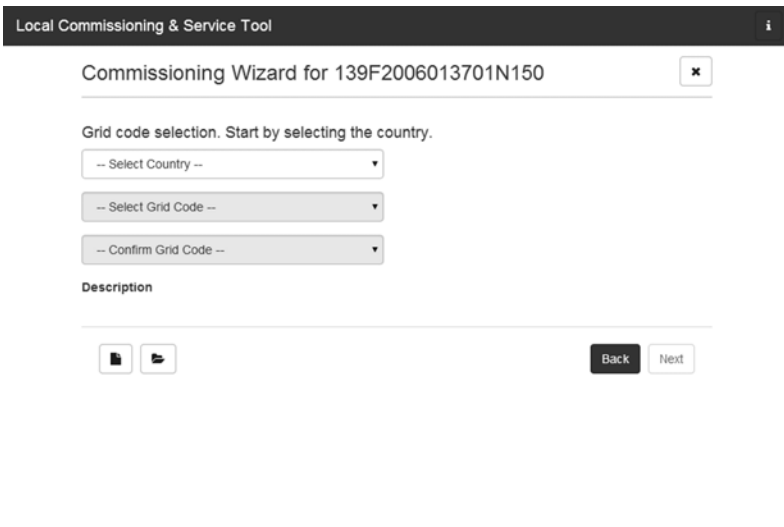

Figure 5.6 LCS tool - selecting the country and grid code
7. Select the desired country from the list of options available for the inverters in the network. See figure 5.6.
8. Select the desired grid code from the list of options available for the selected country. If necessary, load a customer specific grid code by clicking the button [Load]. See figure 5.6. The button [Create] is inactive and cannot be used.